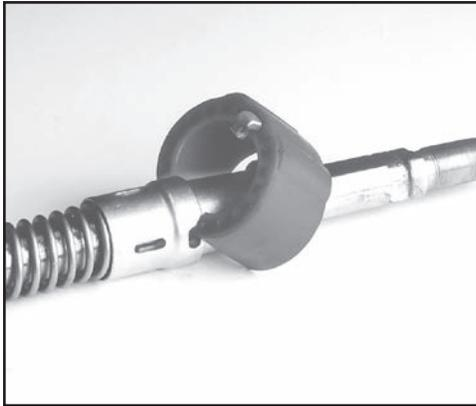

**FIG. 39: LOOSEN REVERSE CONE**
1. Attach a spanner to the reverse cone, loosen with a large hammer (see Fig. 39) and take it off.